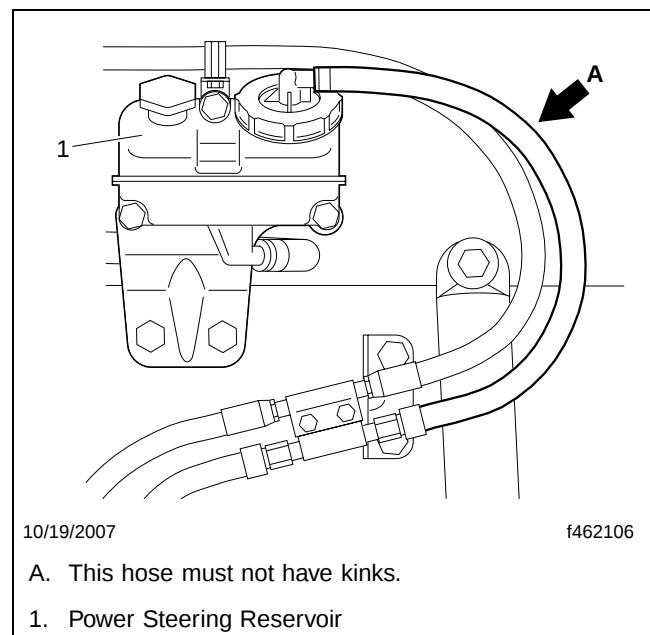

Fig. 6, Hose Routing From Power Steering Reservoir
31. Connect the return hose between the reservoir and formed line. The hose should have no necking or kinks that may impede the return fluid flow. See **Fig. 6**.